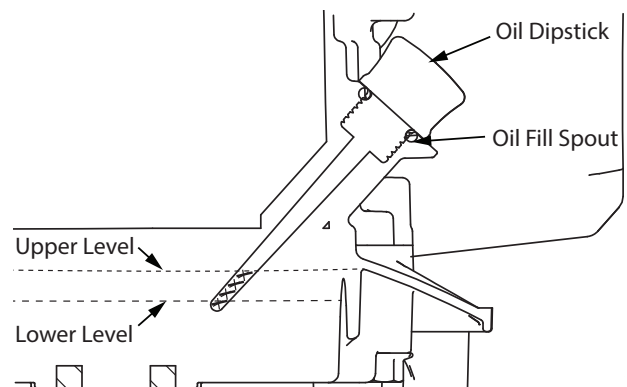

FIGURE 8: Dipstick And Oil Levels.
3. Tip engine back onto a level surface and fill with appropriate oil to the top of the marking on the dipstick (**SEE FIGURE 8**). **DO NOT OVERFILL.** For proper oil capacity, see the engine manufacturer's instructions.
4. Reinsert dipstick and tighten. **SEE FIGURE 8**